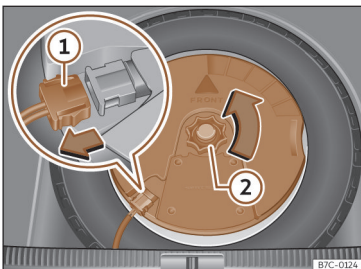

Fig. 223 In the boot: remove the subwoofer.
- Disconnect the subwoofer's speaker cable >>> Fig. 223 ①.
- Turn the securing wheel anti-clockwise >>> Fig. 223 ②.